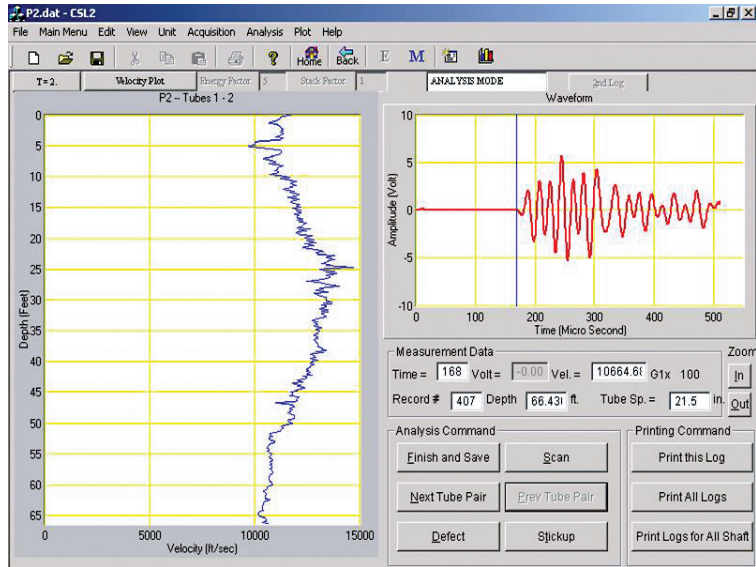

Figure 24: Velocity Plot
2. Velocity Plot: Alt + 2 or Plot/Log, Plot/Velocity Plot (see in Fig. 24)